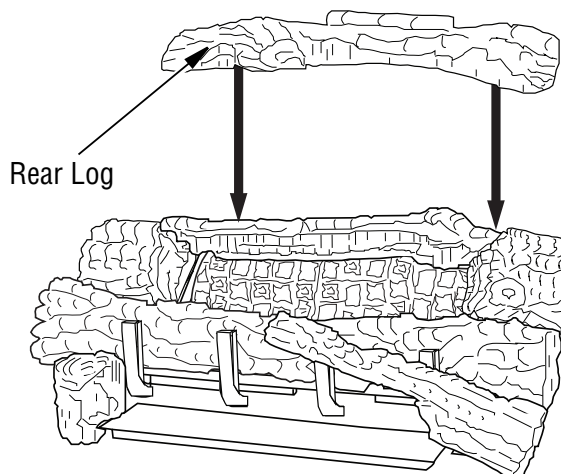

Figure 37 - Installing Rear Log
- Rest rear log in back corner sections of chassis assembly as shown in **Figure 37**.